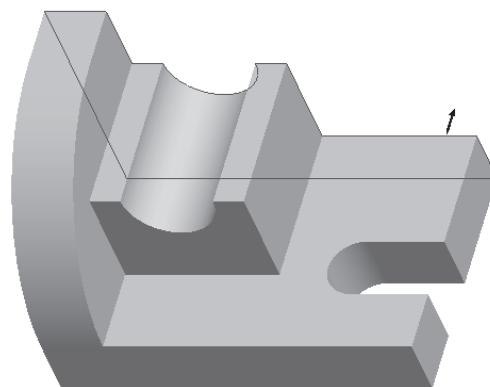

Figure 4-87 Arrow pointing in the direction of viewing the sketch plane
2. Choose the **Use Previous** button from the **Sketch Plane** area in the **Sketch** dialog box. The yellow arrow is displayed in the drawing area, as shown in Figure 4-87.
By specifying the **Use Previous** button, you are using the previous sketching plane that was defined for the previous feature. A yellow arrow is displayed on the face and points in the direction of viewing the sketch, as shown in Figure 4-87.